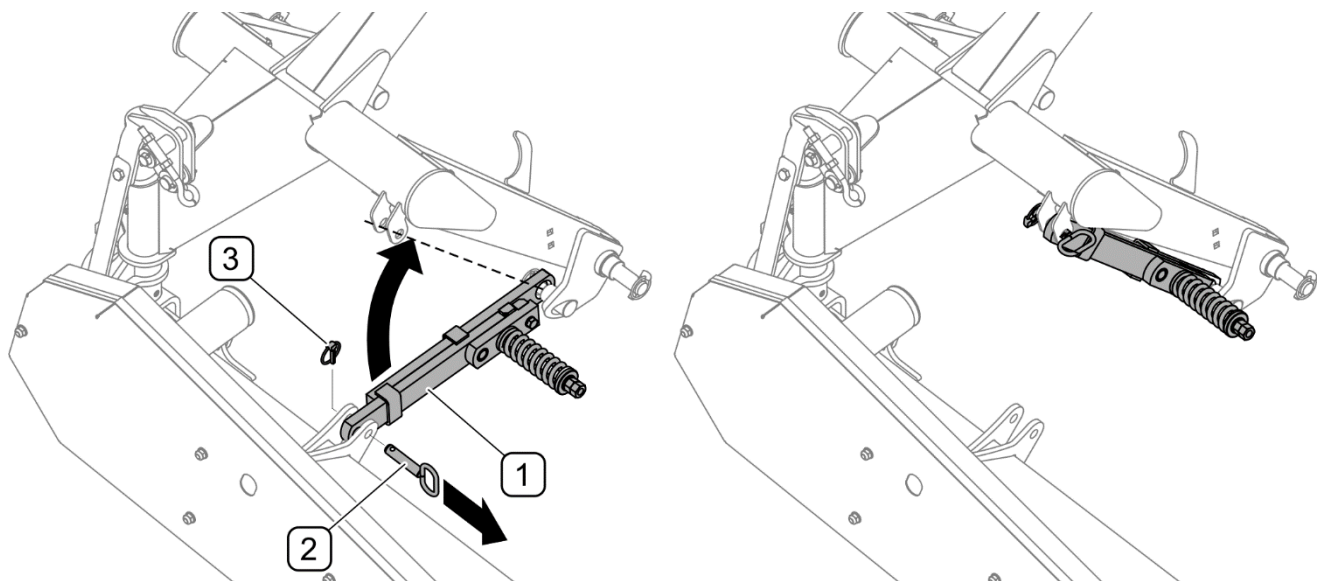

FIGURE 4.5 Disassembly of safety device
- release and take out securing pin (2), from safety catch (FIGURE 4.5)
- raise safety catch (1) and place in bracket frame and secure with pin (2) and cotter pin (FIGURE 4.5)